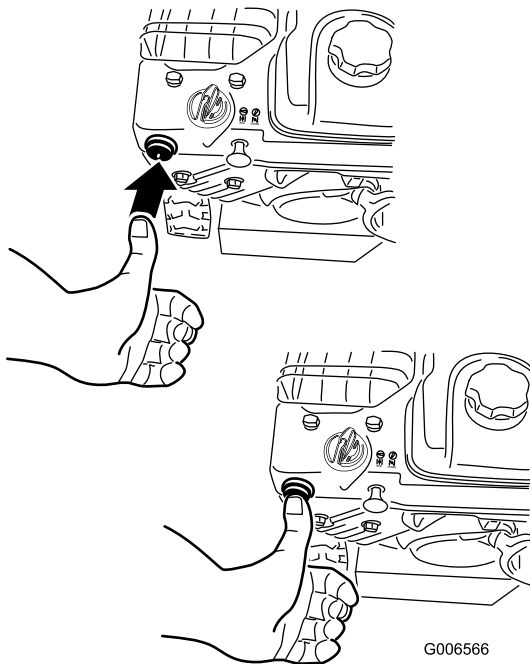

Figure 30
4. Firmly push in the primer with your thumb 2 times (-9°C or 15°F or above) or 4 times (below -9°C or 15°F), holding the primer in for a second before releasing it each time (Figure 30).